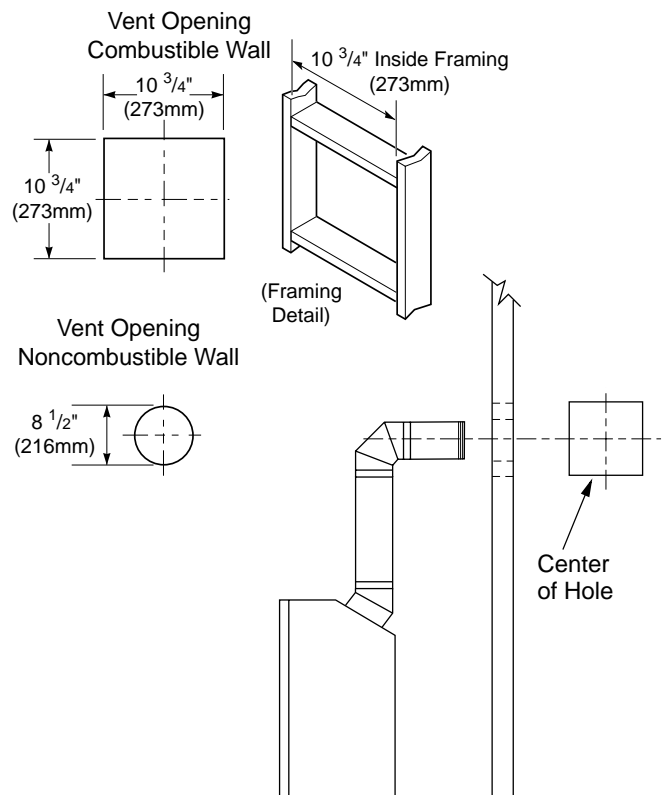
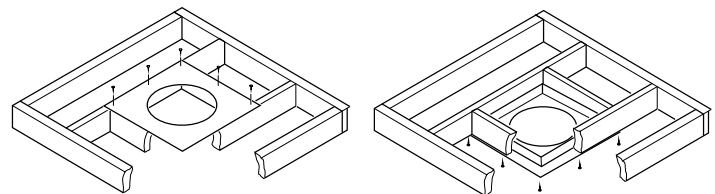

Figure 9 - Vent Opening Requirements
Figure 20 - Installing Firestop
5. Carefully determine the location where the vent pipe assembly will penetrate the outside wall. The center of the hole should line up with the center-line of the horizontal vent pipe. Mark the wall for a 10 3/4" x 10 3/4" square hole. Cut and frame the square hole in the exterior wall where the vent will be terminated. If the wall being penetrated is constructed of noncombustible material, such as masonry block or concrete, a 8 1/2" hole with zero clearance is acceptable (see Figure 9).
1. Cut a 10 3/4" square hole in the ceiling using the locating hole as a center point. The opening should be framed to 10 3/4"x10 3/4" (273mm x 273mm) inside dimensions, as shown in Figure 9 on page 8 using framing lumber the same size as the ceiling joists. If the area above the ceiling is an insulated ceiling or a room, nail firestop from the top side. This prevents loose insulation from falling into the required clearance space. Otherwise, install firestop below the framed hole. The firestop should be installed with no less than three nails per side (see Figure 20).
3. Cut a hole in the roof using the locating hole as a center point. (Cover any exposed open vent pipes before cutting hole in roof.) The 10 3/4"x10 3/4" hole must be measured on the horizontal; actual length may be larger depending on the pitch of the roof. There must be a 1" clearance from the vent pipe to combustible materials. Frame the opening as shown in Figure 9, page 8.